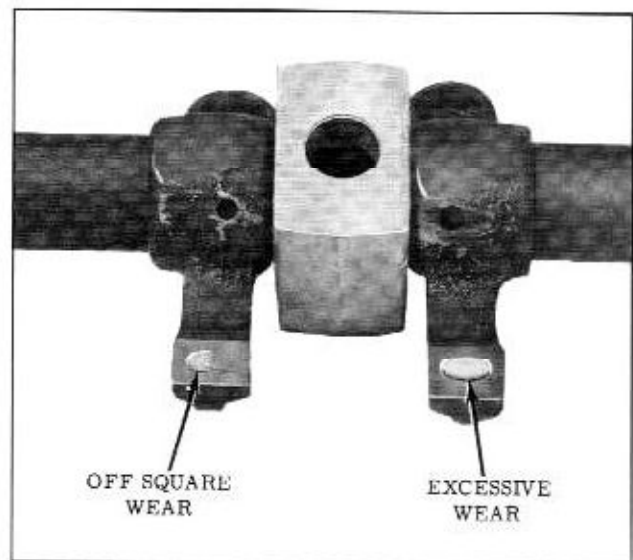

Fig. 8-16 Rocker Arm Wear
- b. Observe rocker arm pad for excessive wear or excessive off square. Replace as required. (Fig. 8-16)